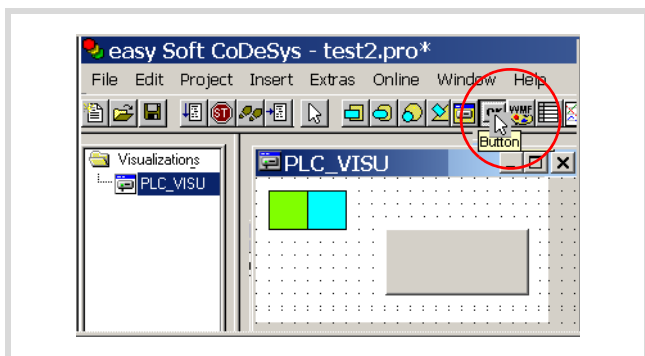

Figure 21: Application with button for changing to the basic menu
- ▶ To change from an application screen to the basic menu, add a button as shown in Figure 21 to the application screen.